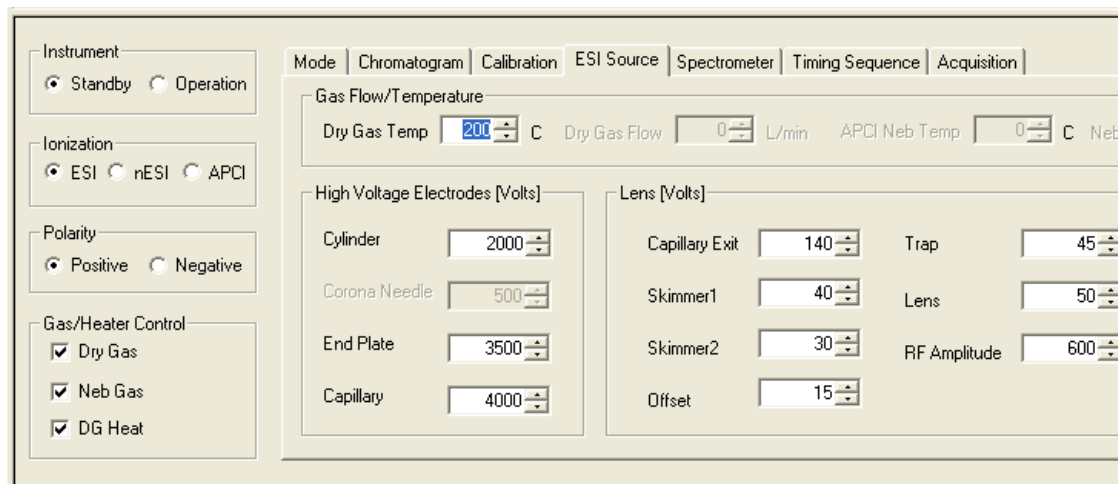

Figure 4-7 Gas/Heater Group and ESI Source Tab
1. Click the **Dry Gas** and **Neb Gas** checkboxes in the Gas/Heater Control group (Figure 4-7), if they are not already on.